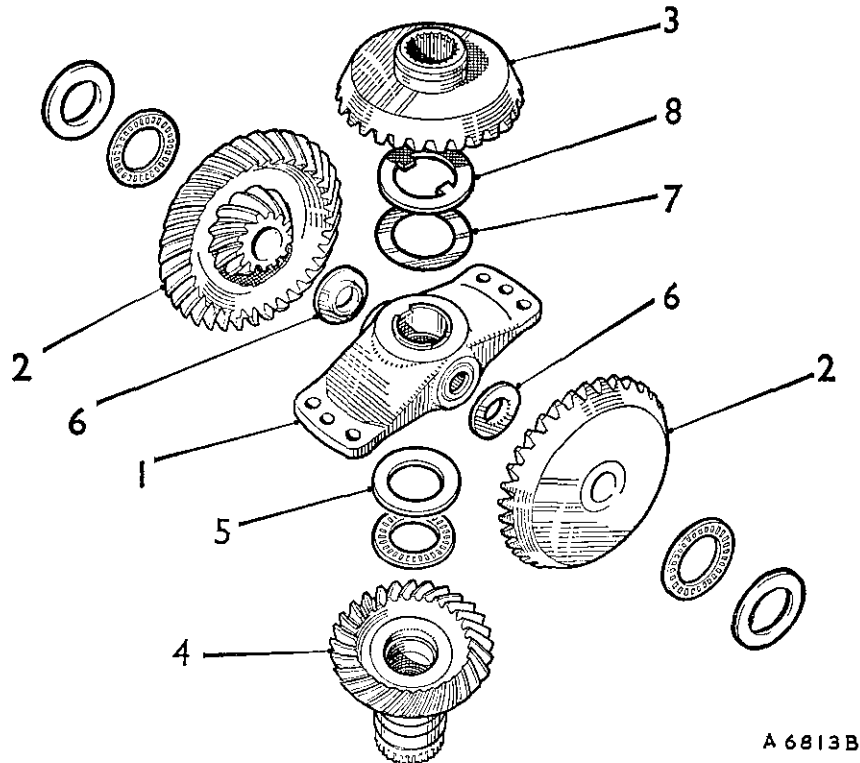

Fig. Fa.44
- (20) Assemble the forward output gear with its bi-metal washer and the .004 in. (.10 mm.) shim (if fitted) interposed between the bi-metal washer and the carrier (see Fig. Fa.44).